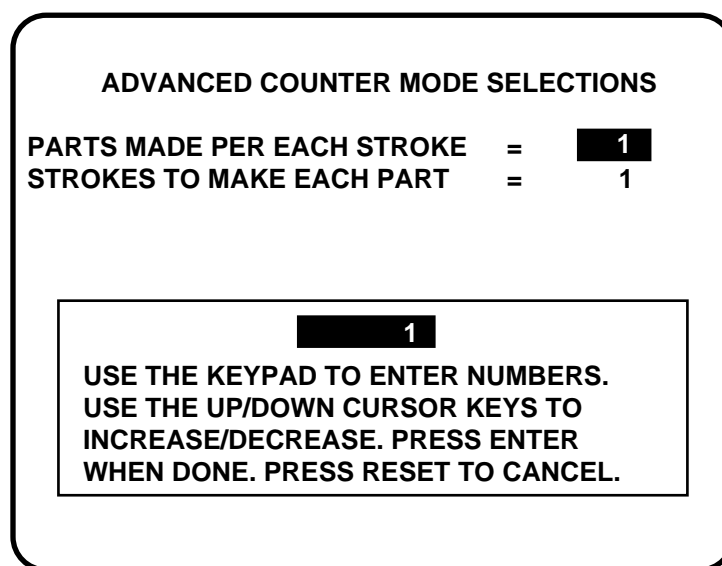

Figure 5-14. Setting parts/stroke or strokes/part
2. *If you had selected "Auto enable by tool" in Initialization mode (Ch. 4), a screen appears asking you to enter the stroke value. If you had selected "Auto Enable by Sensor and tool" in Init, this screen will not appear (refer to Fig. 5-14, Pg. 98).*